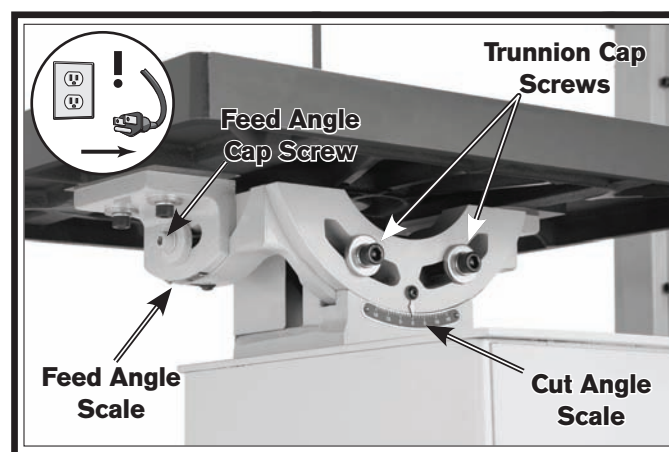

Figure 46. Location of table scales.
3. Using a 6mm hex wrench, loosen the trunnion cap screws (see **Figure 46**).